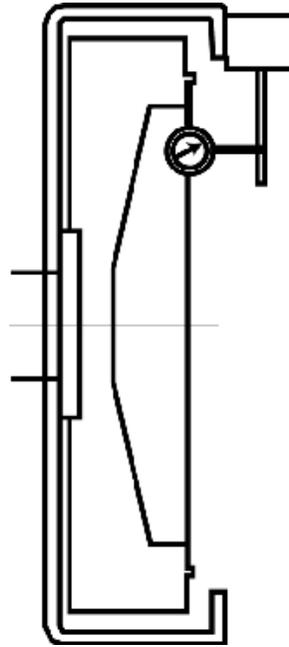

FIGURE 6
4.1.4 Check flywheel pilot bore runout. (see Figure 6)